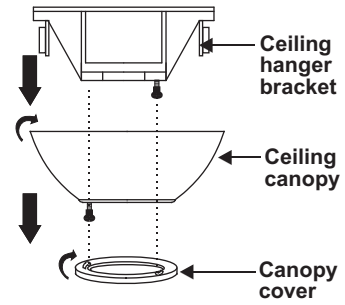

Figure 1
1. Remove the decorative canopy bottom cover from the canopy by turning the cover counter clockwise. (Fig. 1)
2. Remove the hanger bracket from the canopy by removing the 1 of 2 screws from the bottom of the hanger bracket and loosening the other one a half turn from the screw head. Next, turn the canopy counter clockwise to remove the hanger bracket from the canopy. (Fig. 1)